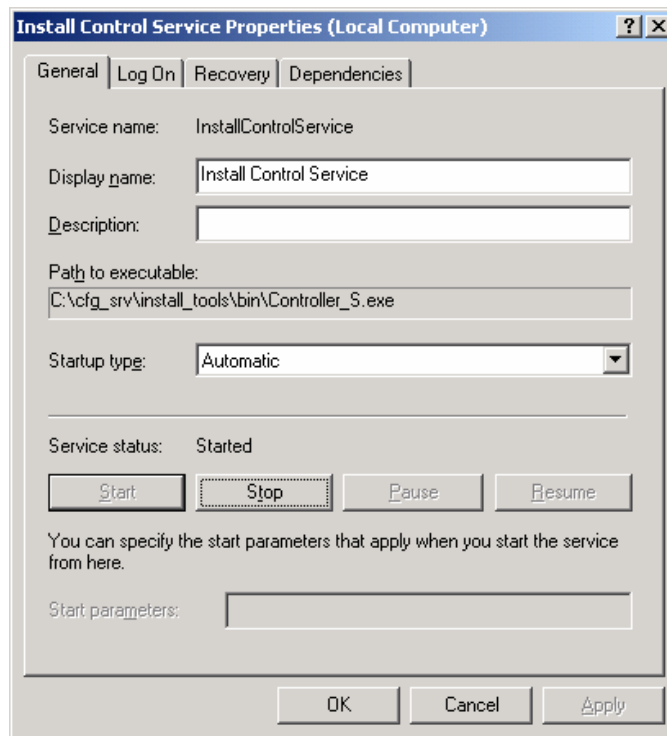

Figure 1-246. Stop Install Control Service
2. Double click on the **Install Control Service** icon shown in the Services window. The “Install Control Service Properties” window is displayed (Figure 1-246).